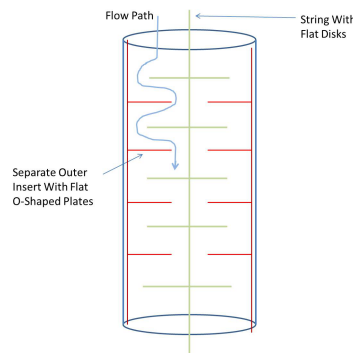

Figure 2: Option 1
- Option 1: The first proposed solution involves constructing both horizontal and vertical baffles inside the pipe; different combinations and orientations of baffles can be examined. Horizontal baffles could be attached to a string running through the center of the pipe with additional horizontal baffles affixed to an insert sitting on the outside of the pipe - these layers would alternate. Vertical baffles could then be attached to some of these horizontal baffles to increase collisions (see Figure 2).